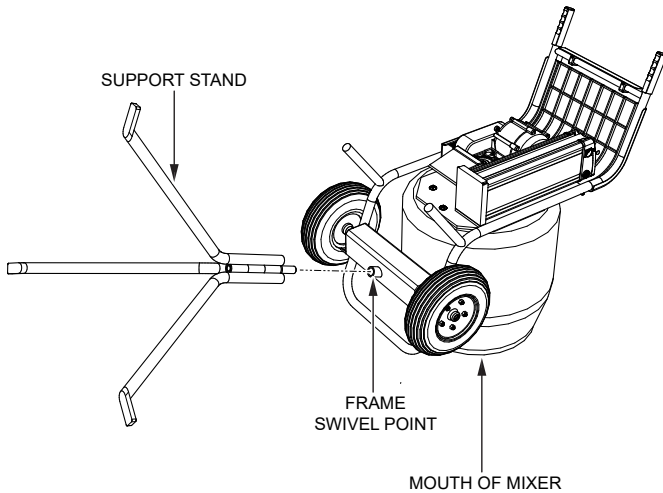

Figure 13. Attaching Support Stand
3. Tip mixer onto mouth as shown in Figure 13, and insert support stand into frame swivel point.